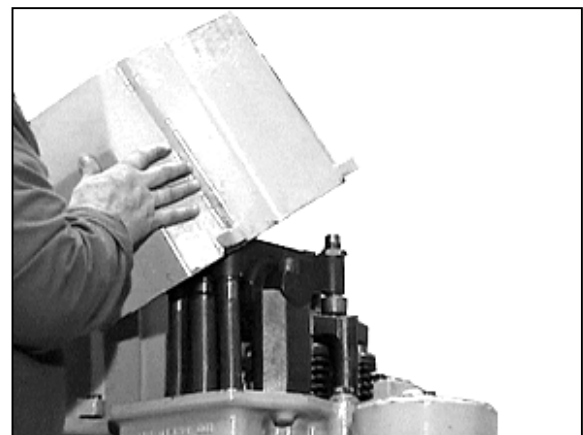

Fig.2 Remove the rocker cover
3. Remove rocker cover (**Fig.2**).